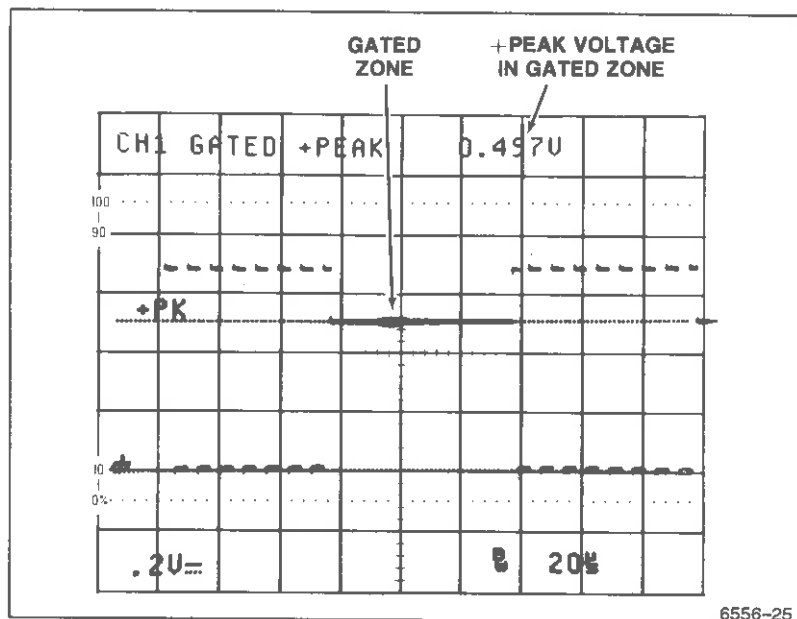

Figure 5-2. Gated voltage measurement.
3. Use the \leftarrow OR DELAY control to position the intensified zone to the area of interest on the waveform to be tracked. (See Figure 5-2.)